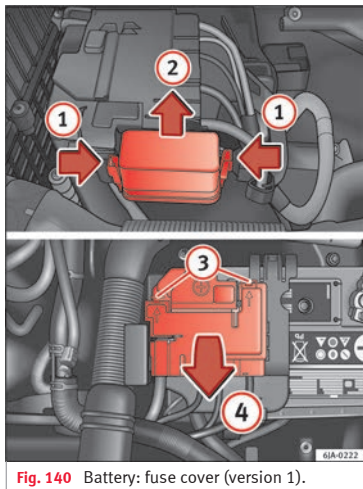

Fig. 140 Battery: fuse cover (version 1).
- Press the flexible tabs on the fuse box cover in the direction indicated by the arrows ① » Fig. 140.
- Remove the cover by sliding it in the direction indicated by arrow ②.
- Use a flat-headed screwdriver to unlock the holes ③.
- Open the cover in the direction indicated by the arrow ④.